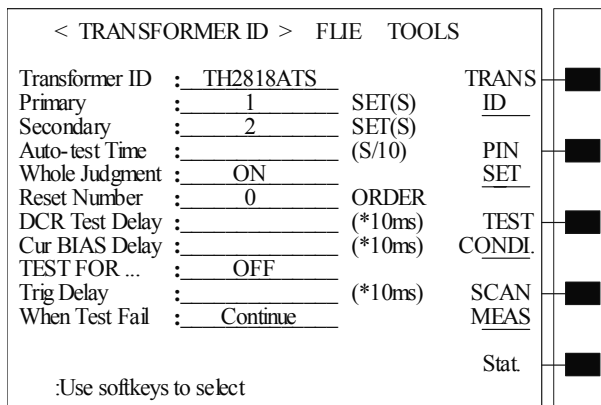

Figure 3-2-2-1
- Press corresponding soft-key in the soft-key area to enter into **<Transformer ID>** menu face as showed figure3-2-2-1. (Transformer single test has been introduced in the manual of TH2818/19, please refer to manual description of TH2818/19 if you need.
<Transformer ID> page layout is showed as figure 3-2-2-1
Description to above figure 3-2-2-1 as following: